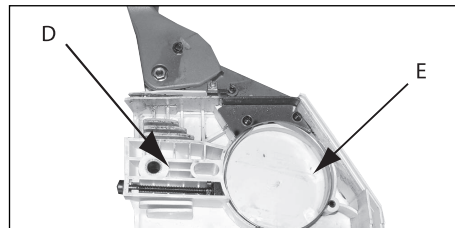

Fig. 3D
3. Using a flat headed screwdriver, turn the adjustment screw (D) ANTICLOCKWISE until the TANG (E) (projecting prong) is to the end of its travel (Fig. 3D).